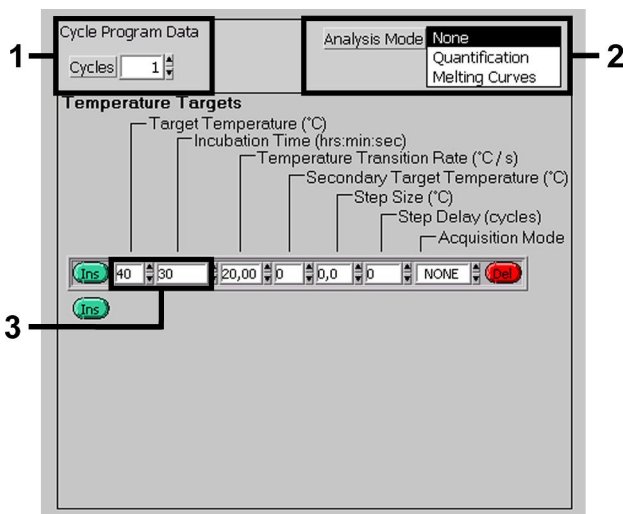

Figure 5. Cooling.
3. Amplification of the cDNA Fig. 5